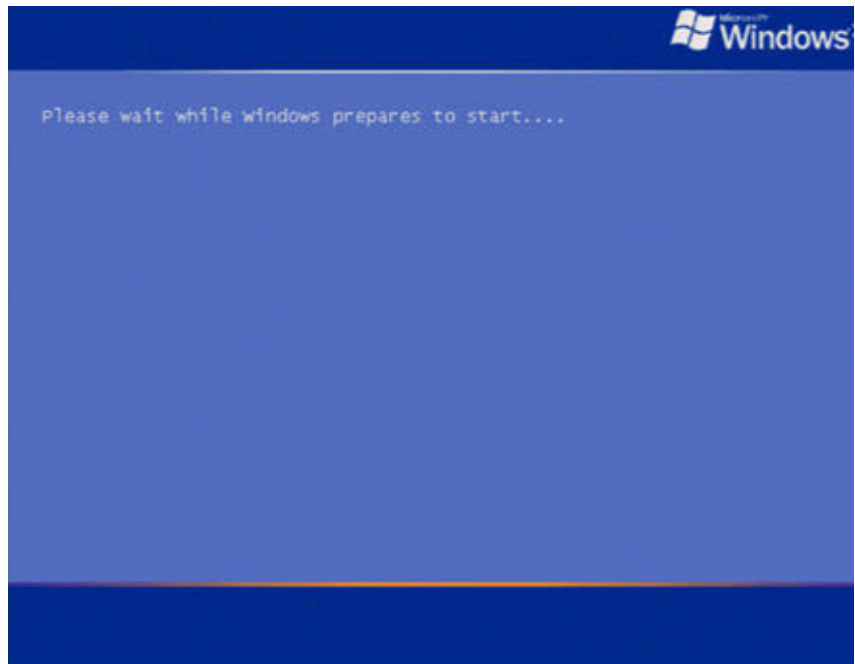

Figure 8 Windows XP Pro for Embedded Systems start up screen
Step 4. The windows start up screen as shown in **Figure 8** appears.